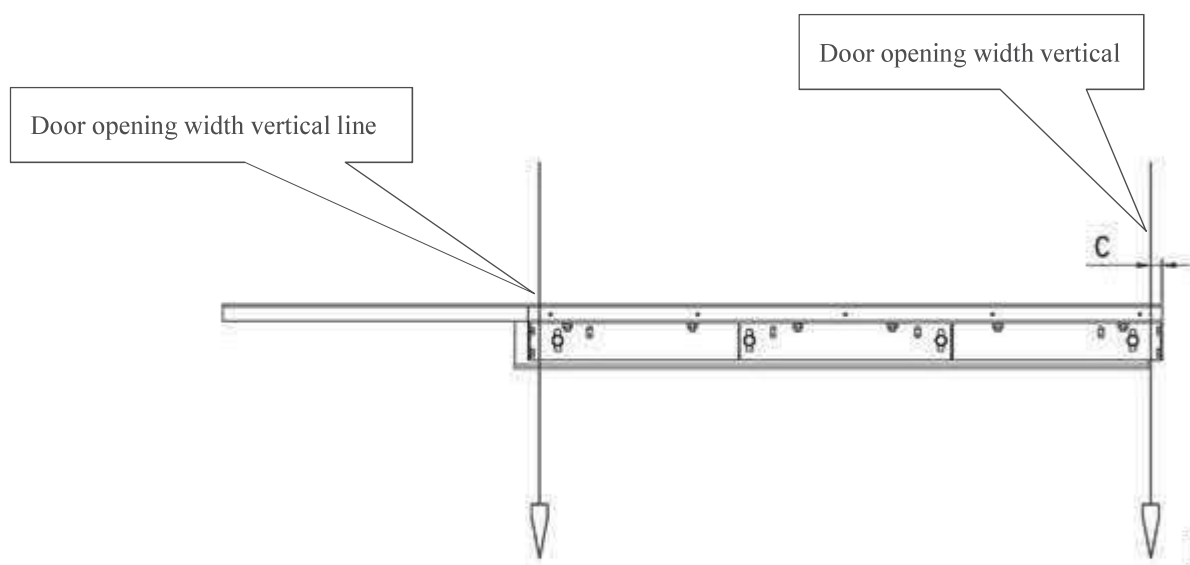

Figure 5-2-2 Adjust left and right position of car door sill (2 Panels side opening).
- Adjust the left and right direction of the sill, for 2 panels side opening doors, $C = 20 \pm 1\text{mm}$, refer to Figure 5-2-2